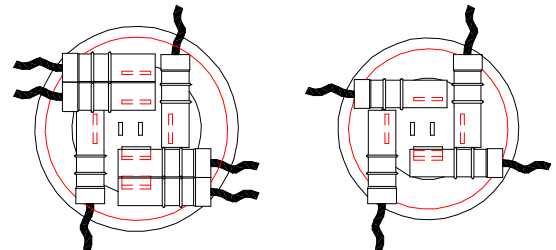

Fig 4 Wire Configuration for Right Angle Terminals
6. The push on terminals (right angle & straight) supplied with the modular connector series use an improved double wall barrel design vs. typical single wall barrel. The extra strength in the barrel improves electrical conductivity and wire grip. Some crimp tools do not have enough leverage to securely crimp this terminal which could cause poor connections. The shape of the crimp die also affects the quality of the crimp, especially for the smaller wire sizes. A recommended crimp tool manufactured by Thomas & Betts is their model #WT112M. The right angle terminals can be configured on the 830 and 630 models as shown. <Fig 4>